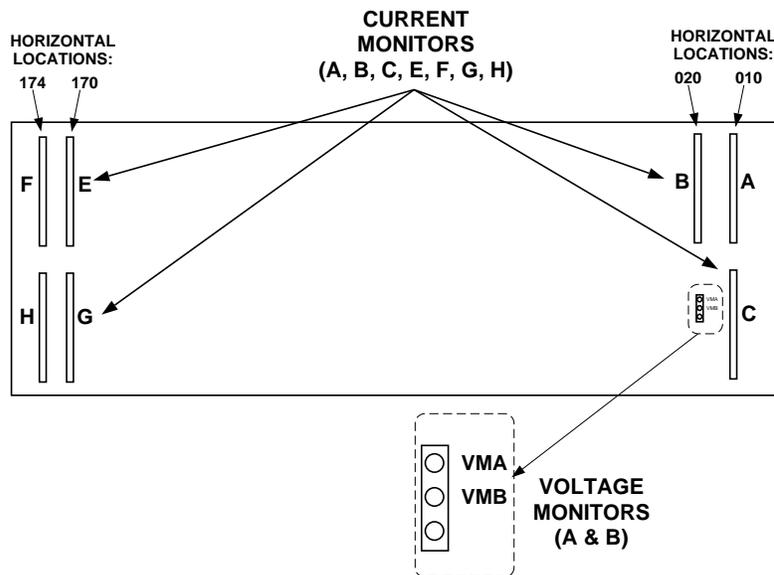

Figure 2. SCU Backplane
13. Looking at the rear of the SCU, record the Current Monitor or Voltage Monitor LED that is lighted. (See Figure 2.)